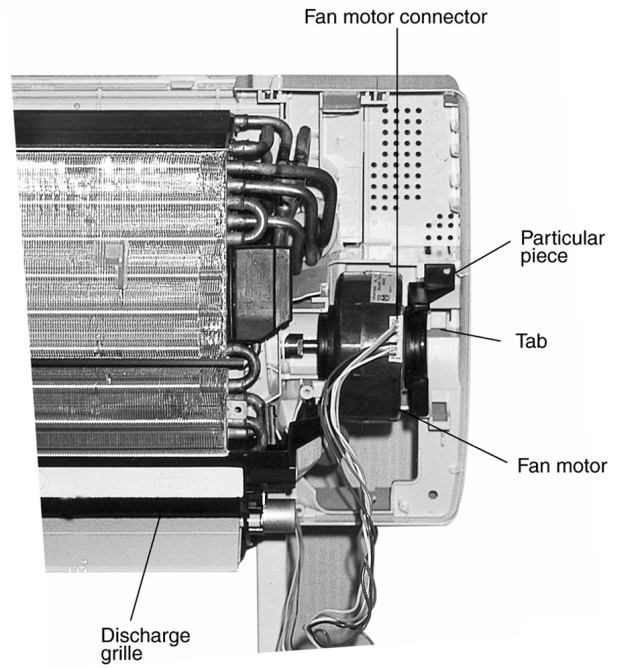

Fig. 4
- Release the Fan motor leadwire by pressing the hook at the center of the connector. (Fig. 4)
- Then remove the particular piece that holding the fan motor by pressing the tab. (Fig. 4)
- Remove the discharge grille and then the drain hose. (Fig. 4)